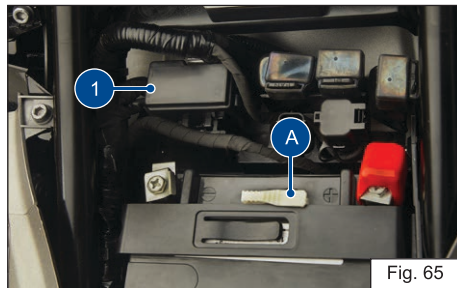

Fig. 65
- ◆ Press the lock and open the fuse box cover (1) (ref. Fig. 65).